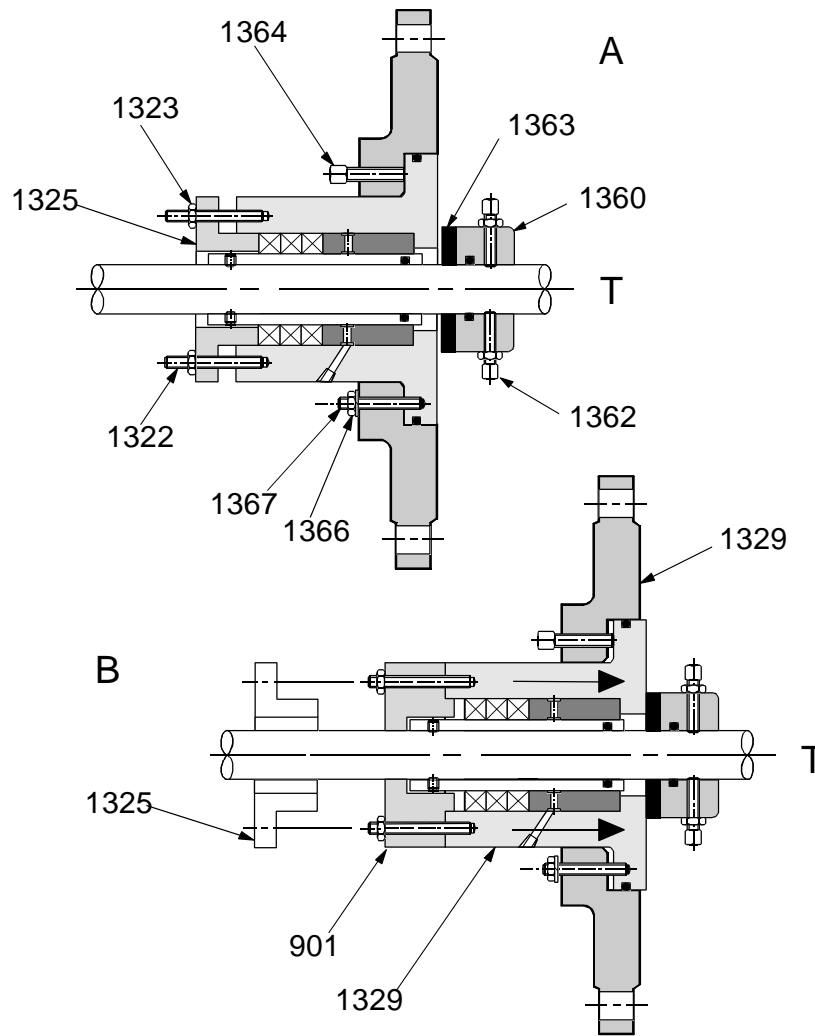

Figure 18: Tank Shut-Off Activation Feature
1. Back off the three flange stud nuts (1366) but ***do not remove***. Refer to ***Figure 18, page 36***.
Refer to *Figure 18*, page 36.
Refer to *Figure 18*, page 36